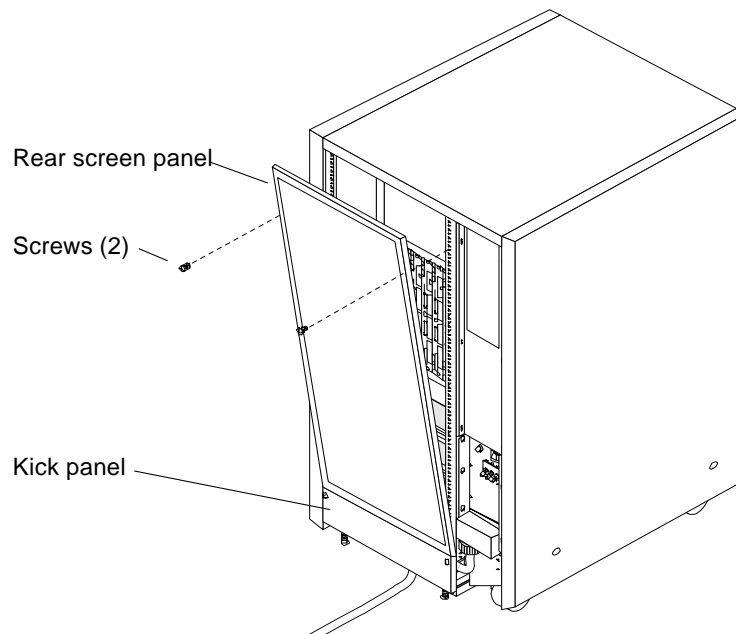

Figure 8-3 Rear Screen Panel Removal
1. Remove the two #10 Phillips screws securing the panel to the frame. See Figure 8-3.